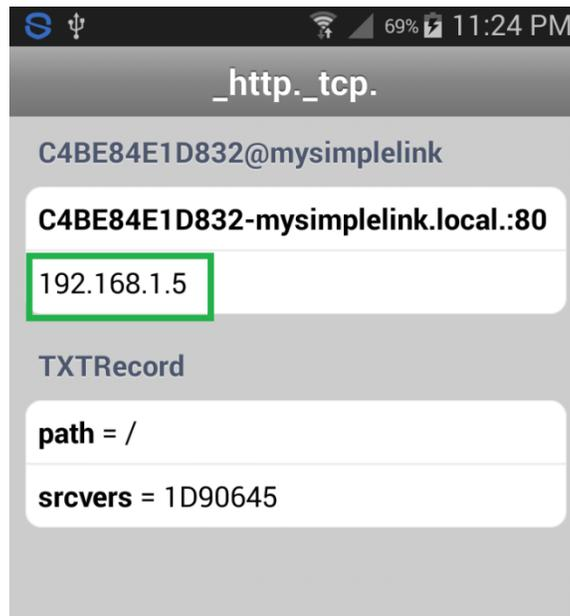

Figure 19. IP Address Location in Bonjour Browser
- Note down the IP address of the CC3200, as shown in Figure 19.